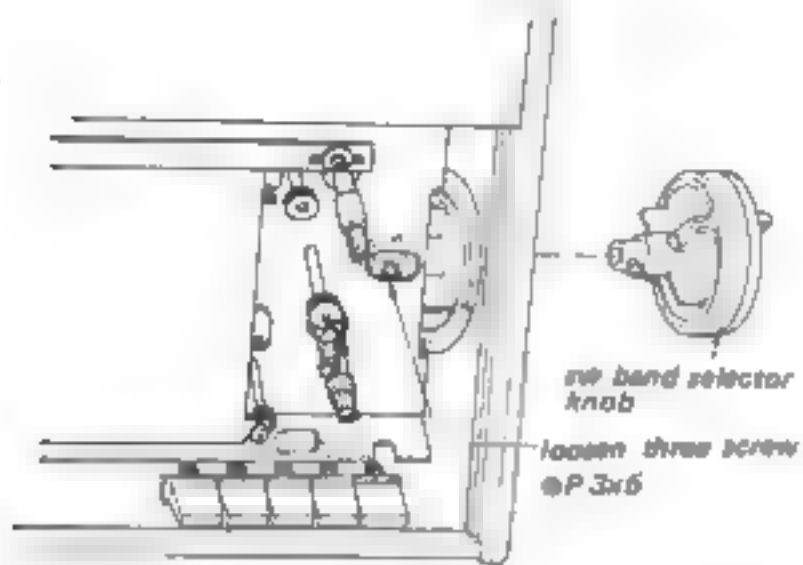

Fig. 2-5
10. Loosen the three screws and pull off the sw band selector knob as shown in Fig. 2-5